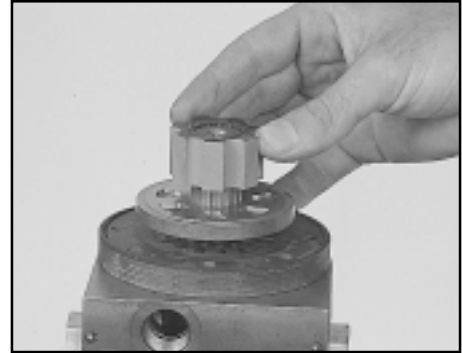

Figure A17
18. Place the inner over the splines of the shaft. Position the inner so the semi-circular roll pockets are between the rotary valve port windows. SEE FIGURE A17.